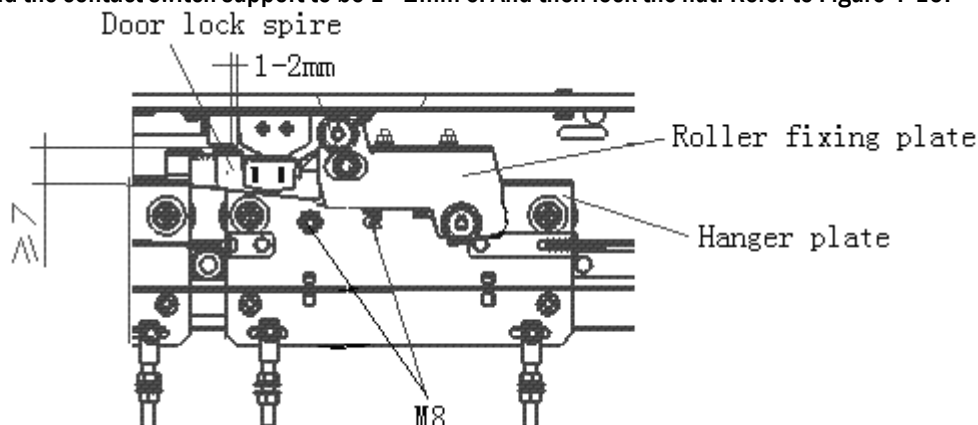

Figure 4-10 First Adjustment Drawing of Landing Door Lock
a) Loose two nuts M8 on the spacing rubber support; move the ledge lightly and adjust the distance between the lock tip and the contact switch support to be 1~2mm e. And then lock the nut. Refer to Figure 4-10.